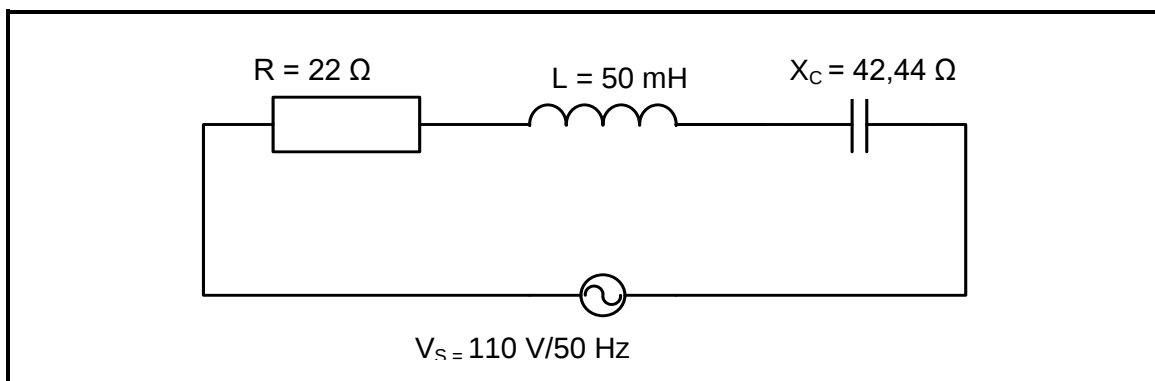

FIGURE 3.5
- 3.7 The series RLC circuit in FIGURE 3.5 consists of a $22\ \Omega$ resistor, an inductor of 50 mH and a capacitor with a reactance of $42,44\ \Omega$. The series combination is connected to a $110\text{ V}/50\text{ Hz}$ supply. Answer the questions that follow.